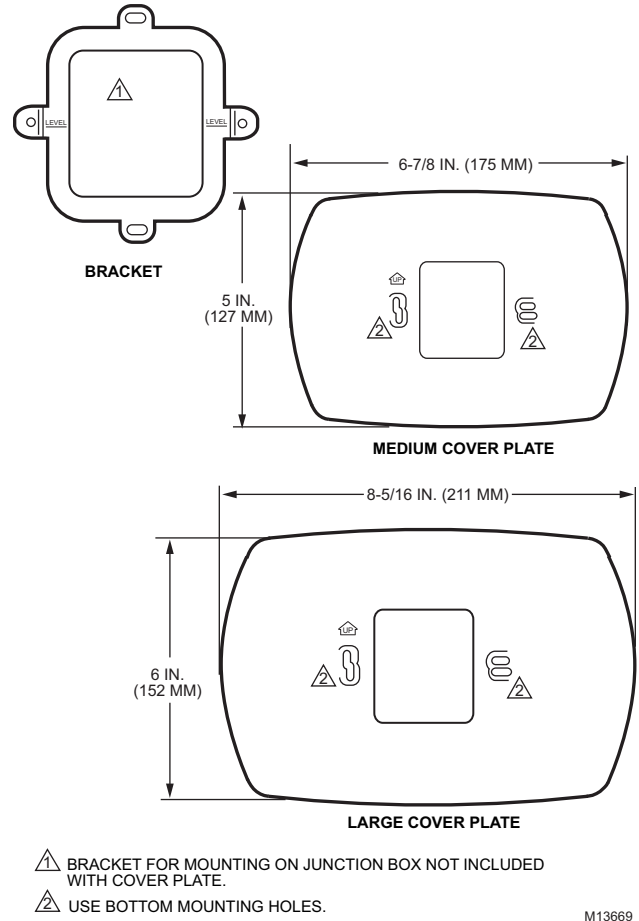

Fig. 2. 32003796-001 Cover Plate dimensions in in. (mm).
- 32003796-001 Cover Plate: See Fig. 2.